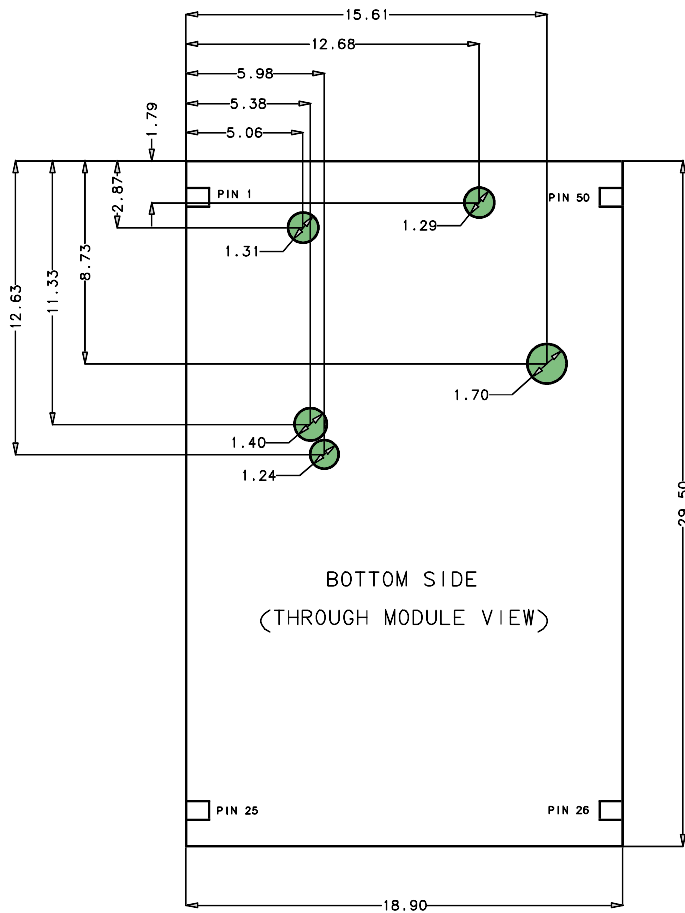

Figure 45: Signals keep-out below data module on application motherboard due to GND opening on data module bottom layer for internal RF signals
2. Signals Keep-Out below module on Application Motherboard due to GND opening on LEON-G100 bottom layer for internal RF signals (see Figure 45).